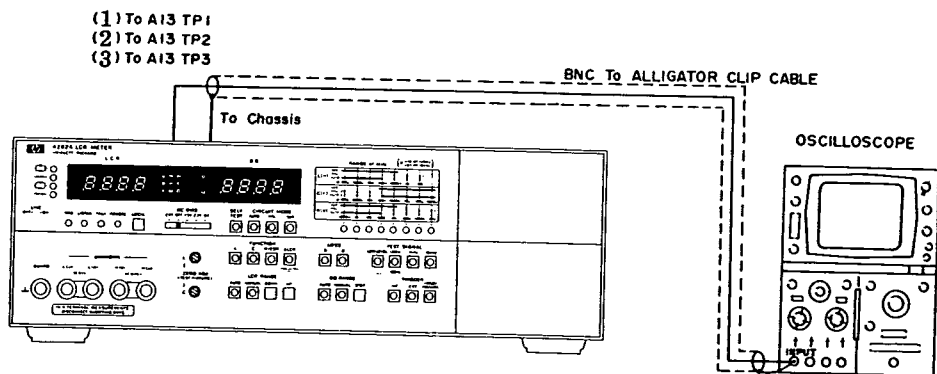

Figure 5-5. A13 Board Offset Adjustment.
(1) OFS - 1 ADJUSTMENT.
a. Connect BNC to dual alligator clip cable between oscilloscope and 4262A test point A13TP1 and 4262A chassis (see Figure 5-5).
(2) OFS - 2 ADJUSTMENT.
- a. Connect BNC to dual alligator clip cable (or 1:1 oscilloscope probe) between oscilloscope and 4262A test point A13TP2 and 4262A chassis (see Figure 5-5).